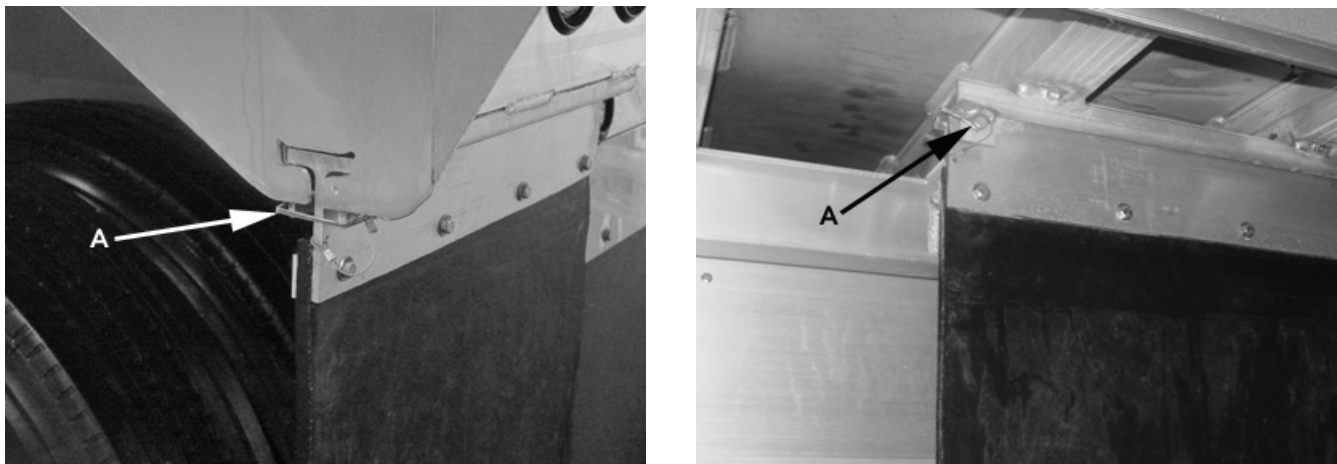

Figure 7-2 Removable Mud Flaps
Your trailer can be equipped with removable mud flaps to reduce the risk of mud flap damage while dumping. Remove pin (A) and slide mud flap outward to remove. See figure 7-2. Install in track under trailer and install pin (A). Install mud flaps and pins on rear of trailer before traveling on the road.